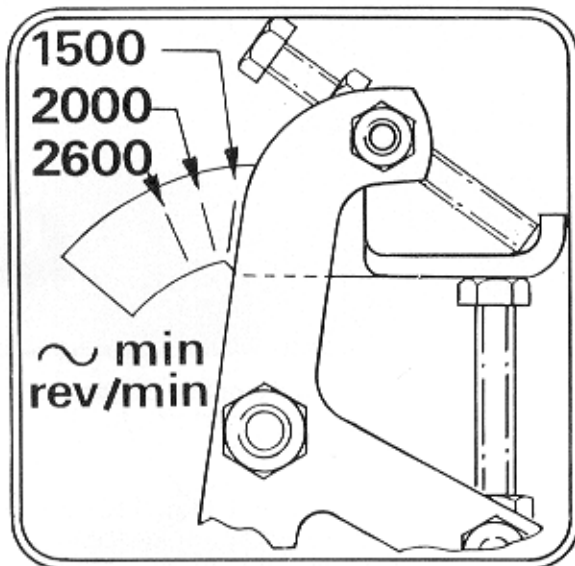

Fig. 112. Speed Control Lever Plate
**SPEED CONTROL LEVER PLATE (Fig. 112)**